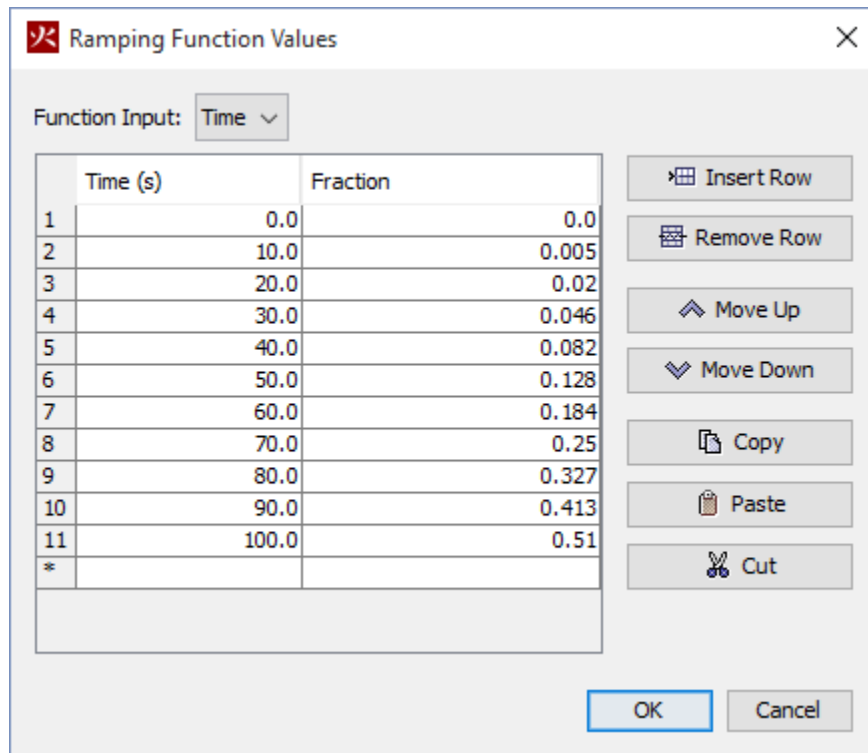

Figure 7: The ramp values multiply the specified HRRPUA to define a function in time.
8. Click **Edit Values** enter the time and normalized values given in Figure 6 (also see Figure 7). If you prepare the data in two columns, you can paste it directly into the table in one operation. Click **OK**.